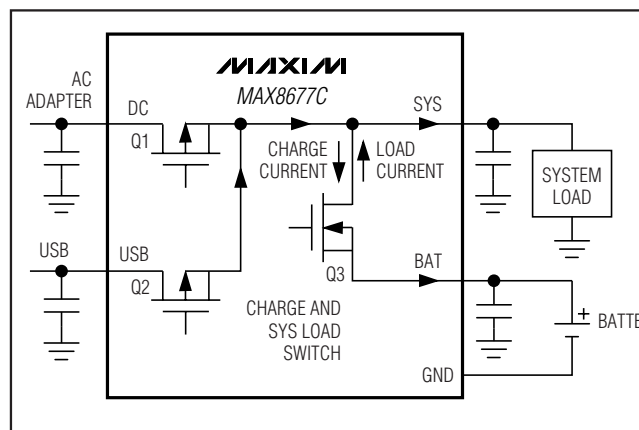

Figure 4. Smart Power Selector Block Diagram
The MAX8677C Smart Power Selector seamlessly distributes power between the external inputs, the battery, and the system load (Figure 4). The basic functions performed are:
An internal 40mΩ MOSFET connects SYS to BAT (Q3, Figure 4) when no voltage source is available at DC or USB. When an external source is detected at DC or USB, this switch is opened and SYS is powered from the valid input source through the input limiter.
The input voltage limiter is essentially an LDO regulator. While in dropout, the regulator dissipates a small I^2R loss through the 0.2Ω MOSFET (Q1, Figure 4) between DC and SYS. With an AC adapter or USB source connected, the input limiter distributes power from the external power source to the system load and battery charger. In addition to the input limiter's primary function of passing power to the system and charger loads at SYS, it performs several additional functions to optimize use of available power:
- **Input Voltage Limiting.** If an input voltage is above the overvoltage threshold (6.9V typ), the MAX8677C enters overvoltage lockout (OVLO). OVLO protects the MAX8677C and downstream circuitry from high-voltage stress up to 14V at DC and 8V at USB. In OVLO, VL remains on, the input switch that sees overvoltage (Q1, Q3, Figure 4) opens, and the appropriate power-monitor output ($\overline{DOK}$, $\overline{UOK}$) is high impedance, and $\overline{CHG}$ is high impedance.
If both DC and USB see overvoltage, both input switches (Q1 and Q2, Figure 4) open and the charger turns off. The BAT-SYS switch (Q3, Figure 4) closes, allowing the battery to power SYS.
An input is also invalid if it is less than BAT, or less than the DC undervoltage threshold of 3.5V (falling). With an invalid input voltage, SYS connects to BAT through a $40m\Omega$ switch (Q3, Figure 4).
- **Adaptive Battery Charging.** While the system is powered from DC, the charger draws power from SYS to charge the battery. If the charger load plus system load exceeds the input current limit, an adaptive charger control loop reduces charge current to prevent the SYS voltage from collapsing. Maintaining a higher SYS voltage improves efficiency and reduces power dissipation in the input limiter. The total current through the switch (Q1 or Q2 in Figure 4) is the sum of the load current at SYS and the battery charging current. The limiter clamps at 4.35V, so input voltages greater than 4.35V can increase power dissipation in the limiter. The limiter power loss is $(V_{DC} - 4.35) \times I$, but not less than $I^2 \times 0.2\Omega$. Also note that the MAX8677C turns off any input that exceeds 6.9V (nominal).